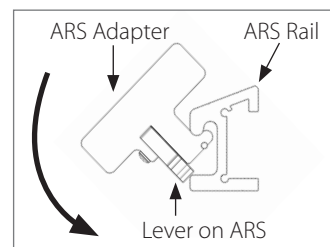

Figure 2
1. Determine the best location to install the Falcon Workstation. Pop out the cover from the Mounting Adapter Channel to access the two screws connecting the channel to the Mounting Adapter. Remove the two screws and the lock washers behind them to free one of the Mounting Adapters (**Figure 1**). Install it into the bottom rail by angling the upper lip into the inside lip of the ARS, pull the lever back against the Mounting Adapter and push the adapter into the rail. Once secure, release the lever (**Figure 2**).